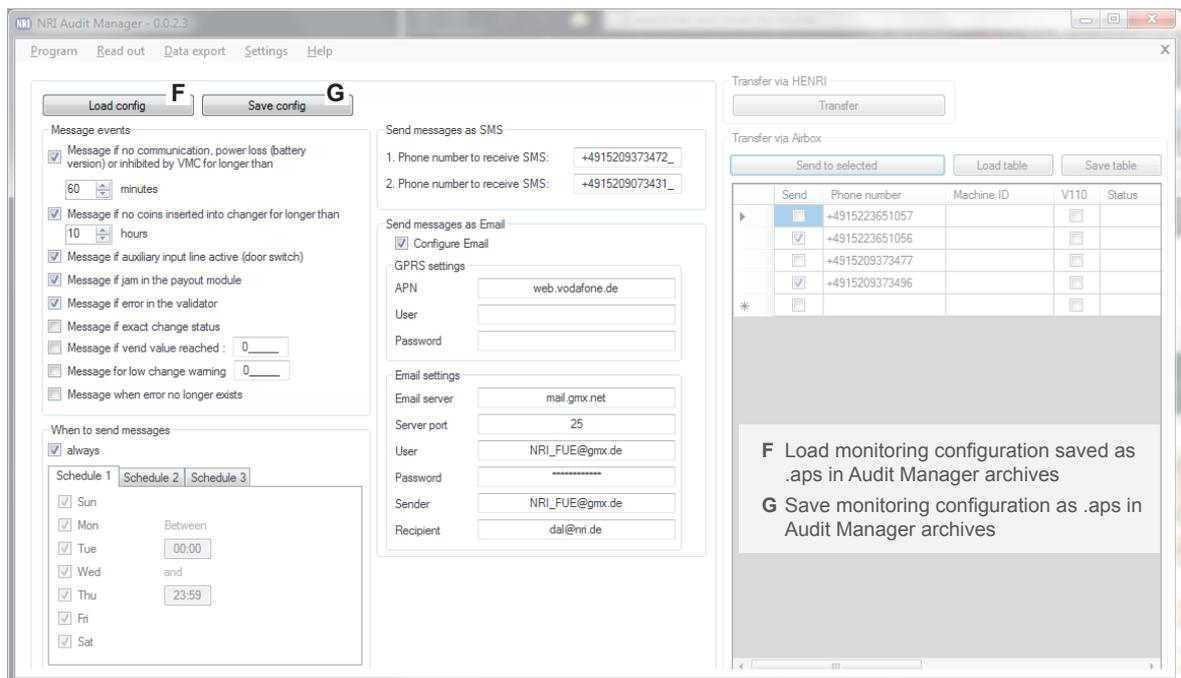

Fig. 17: Saving/loading c² monitoring configuration in Archives directory
- 2** To save the configuration as .aps file in the Archives directory click the **SAVE CONFIG** button [Fig. 17/G]. To load a saved .aps file from the Archives directory click the **LOAD CONFIG** button [Fig. 17/F].